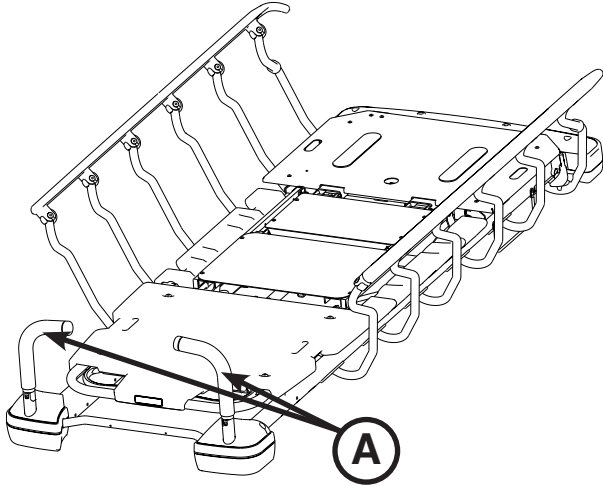

Figure 9.1: Head End Push Handles Open
To use the push handles, pivot the handles (A) up and push down until they are locked into position (Figure 9.1).